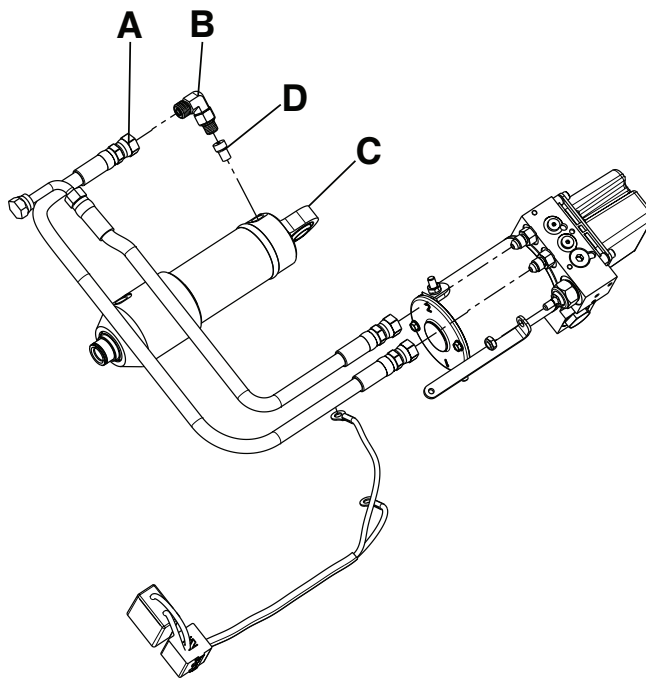

Figure 35 – Velocity fuse components
3. Using an 11/16" combination wrench, disconnect the hydraulic hose (A) closest to the mounting bracket at the head end of the trolley (Figure 35).